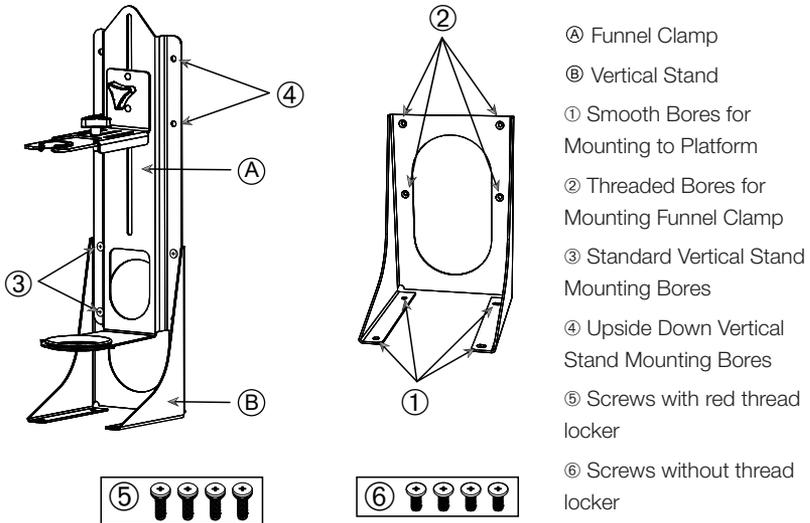
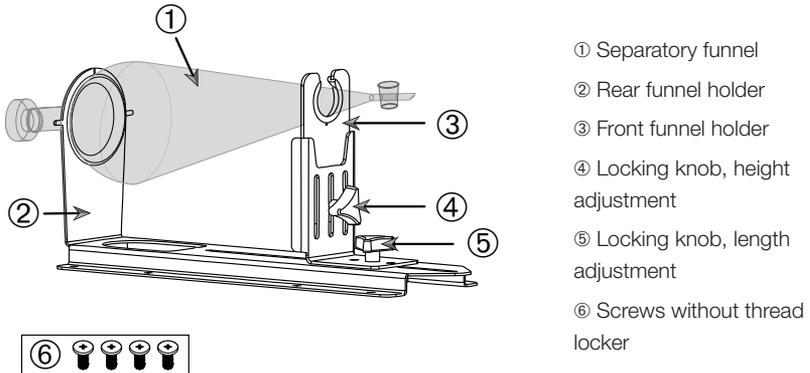

Figure 91: Separatory Funnel Clamp (right) with Vertical Stand Accessory (left)
Figure 92: Separatory Funnel Clamp Assembly
Figure 91 shows the separatory funnel clamp assembly ④ with its vertical stand accessory ⑥ side by side.
2. Align as follows with the four funnel clamp mounting bores (② in Figure 91) of the vertical stand:
- a. Use the standard vertical mounting bores (③ in Figure 91) to install with the funnel tap facing downwards.
- b. Use the upside down vertical mounting bores (④ in Figure 91) to install with the funnel tap at facing upwards.
- c. Secure the separatory funnel clamp to the vertical mount with the screws supplied (⑤ in Figure 91).
3. Fasten the separatory funnel clamp assembly to the platform using the screws supplied with the separatory funnel clamp (⑥ in Figure 91 and Figure 92).